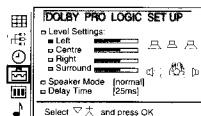

Fig. 33
- 2 Press OK. The cursor moves to Left (sound level of the left speaker) (See Fig. 33) and you hear a test tone from the left speaker.